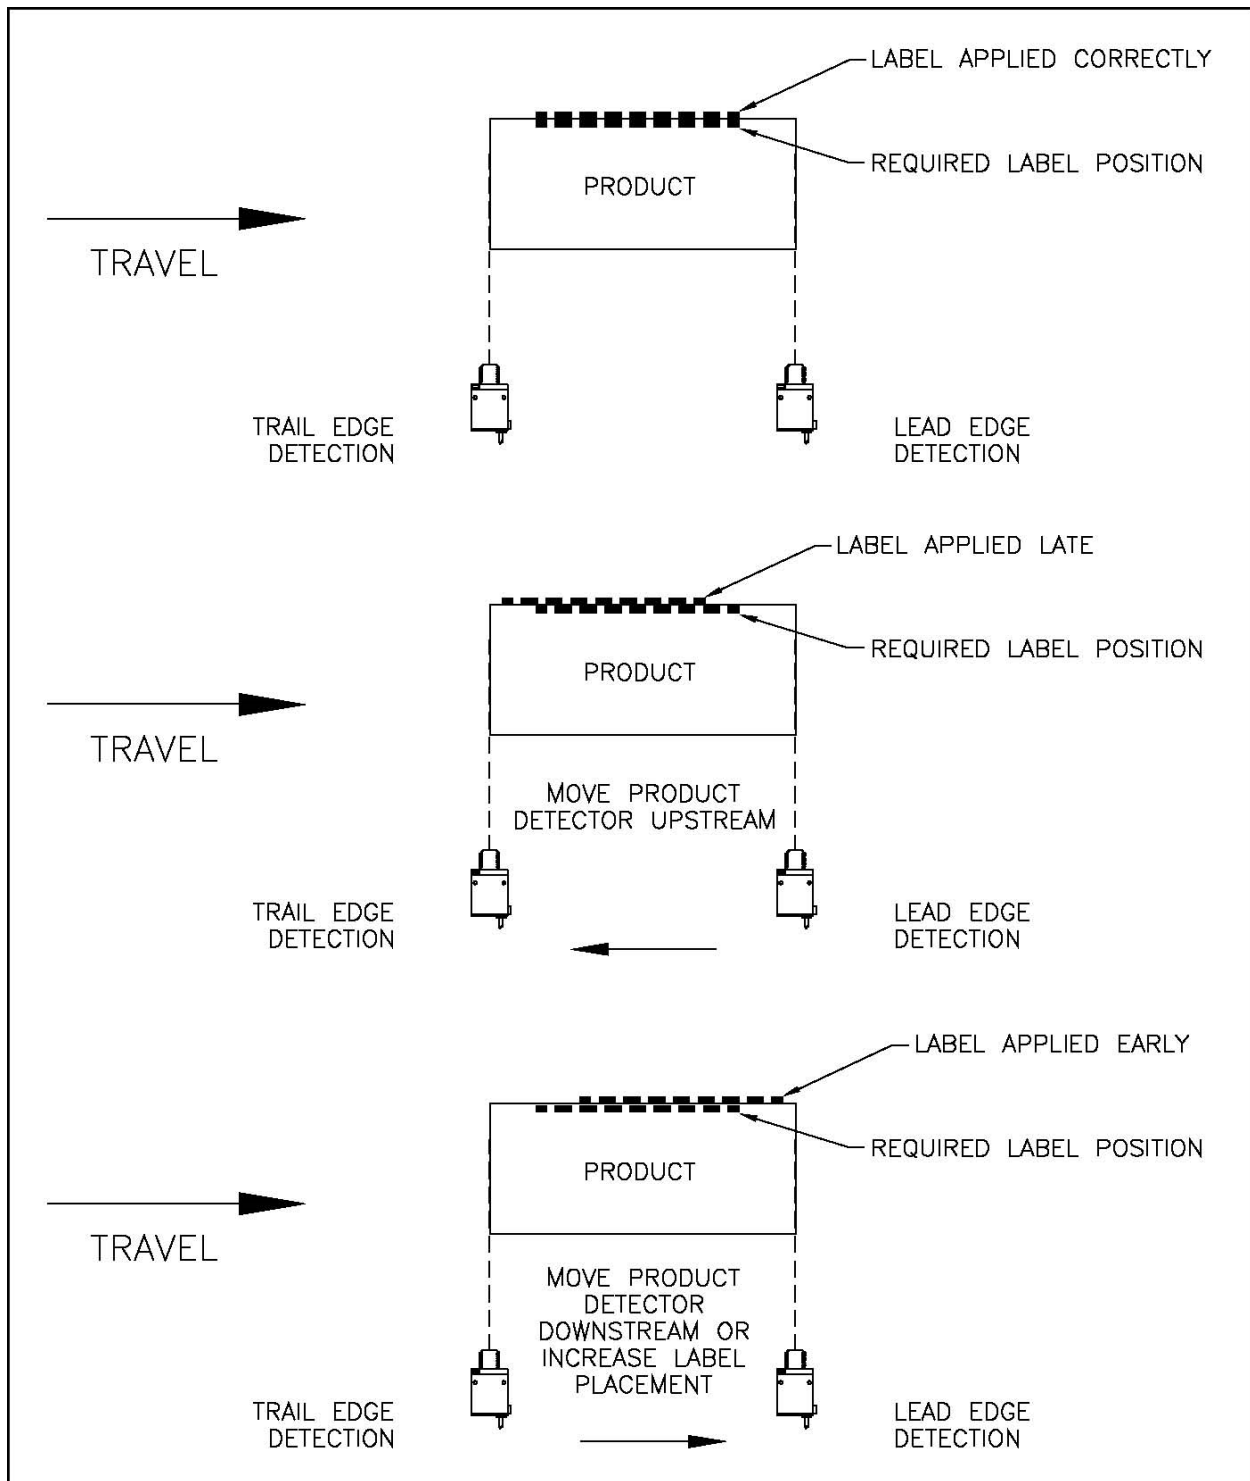

Figure 50 Desired Labeling Position
3. With a label waiting on the vacuum grid, send a product down the conveyor and look at the label that is applied. If the label is applied late, reposition the product detector. If the label is applied too soon, either reposition the product detector, or use the LABEL ON PRODUCT POSITION function to produce a slight delay. See Figure 50.